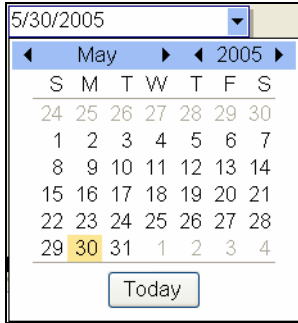

Figure 29.0.6
3. Click on the drop down arrow to select a date. This will reveal the calendar to choose a specific date (Figure 29.0.6).